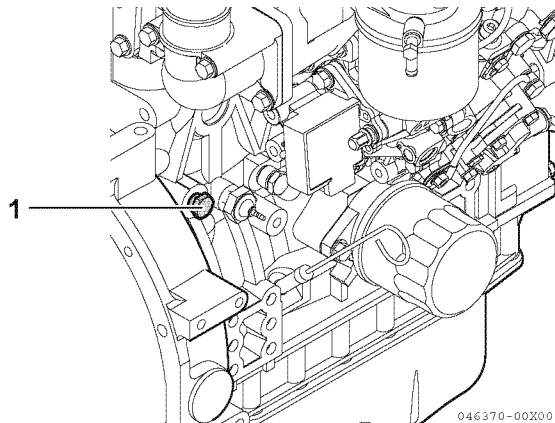

Figure 8-5
- Remove the engine coolant drain plug (1, **Figure 8-5**) from the engine block.